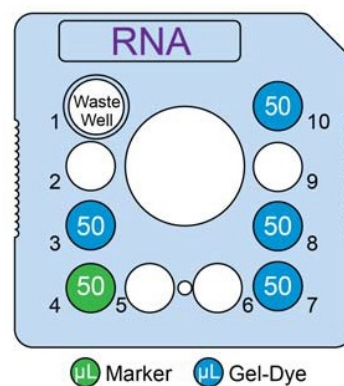
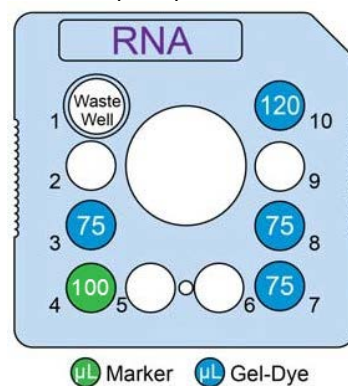

Figure 1. Low-Throughput Chip Preparation
Figure 2. High-Throughput Chip Preparation
2. Using a Reverse Pipetting Technique, add Gel-Dye solution to chip wells 3, 7, 8, and 10 as shown in **Figure 1 (LT)** or **Figure 2 (HT)**.
3. Add **50 μ L (LT)** or **100 μ L (HT)** Small RNA Marker ● to chip well 4 as shown in **Figure 1 (LT)** or **Figure 2 (HT)**.